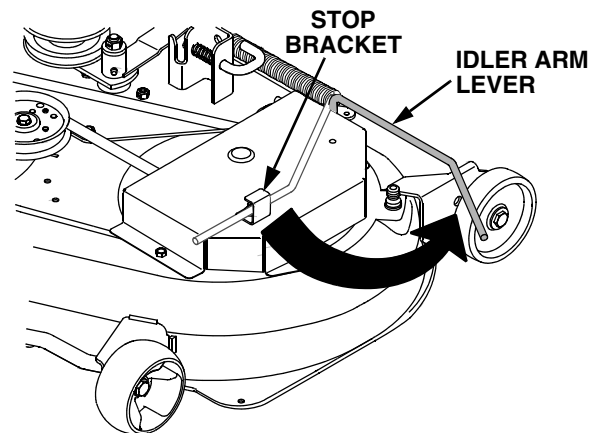

Figure 33
9. Disengage the deck idler arm lever from its stop bracket and release the spring tension by rotating the lever out and rearward (See Figure 33).